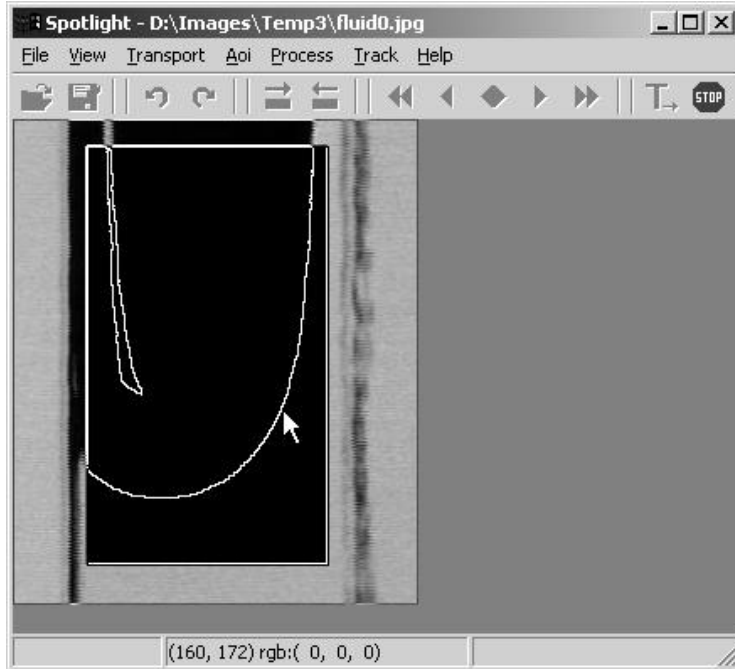

Figure 33. – Line Following example.
6. Click the “Track One” button to track one frame at a time. At this point the image inside the Line Following AOI should look just like the one shown in Figure 33. The Stop button is showing and the program is waiting for you to click on the line to give it a start point. Click anywhere on the line and watch the line turn red, indicating exactly which points were saved to the results file. The procedure may be repeated for each frame by clicking on the “Track One” button or the user may want to enter a semi-automated tracking mode by clicking on the “Track Continuous” button. Note that even in the continuous tracking mode the program waits for the user to click the line after each frame.